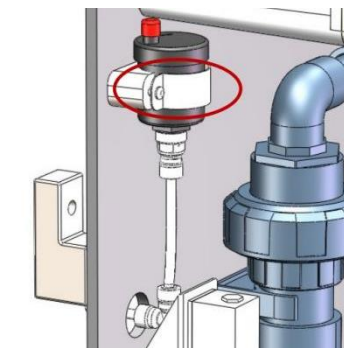

Figure. 11
11. Fix the upper part of the stainless-steel fastener part with screws and the lower part, so as to fix the exhaust valve, as shown in Figure.11